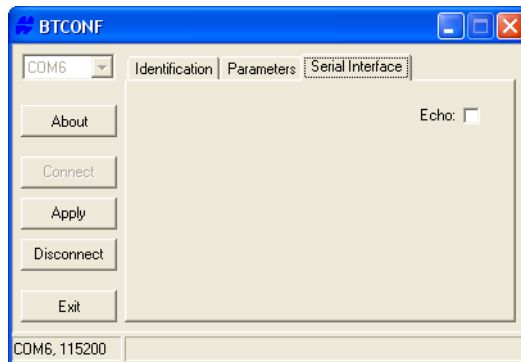

Figure 2-24. BTCONF Serial Interface Tab
8. Click the **Serial Interface** tab (Figure 2-24). Enable Echo to display Bluetooth module replies and corresponding commands on the computer terminal. If needed, click **Apply**.